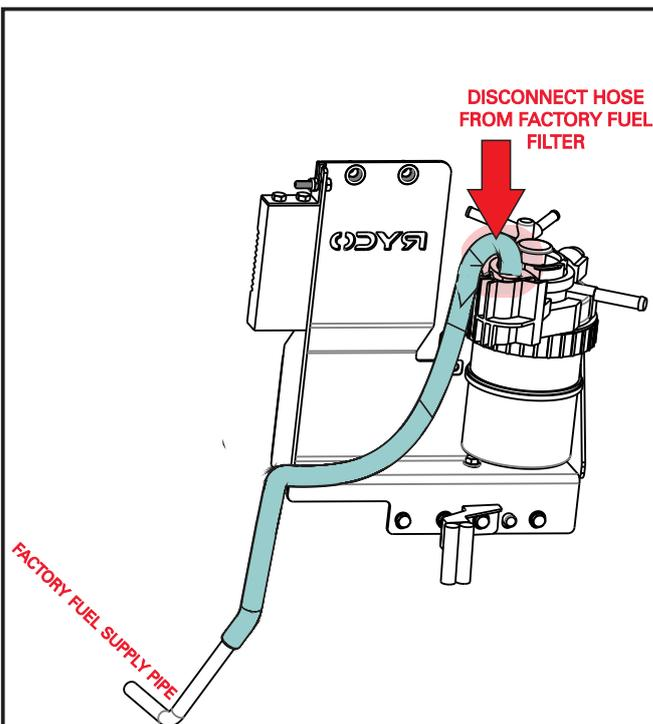

FIG. 5 FACTORY HOSE IDENTIFICATION
5. Locate the fuel inlet hose at the factory fuel filter. Loosen the factory fuel hose clamp and disconnect the fuel supply line coloured green in Fig. 5) from the factory filter. Have a rag ready to capture any diesel that may spill out of the fuel line and the fuel filter. Then install supplied fuel hose clamp and insert the supplied elbow connector (MS4081) onto the end of fuel supply line, do not tighten fuel hose clamps yet.
6. Mount the Z980K fuel filter assembly onto the fuel filter bracket facing to the engine using the two (2) black M10 bolts and washers supplied with the Z980K.
3. Connect the small end of Ryco PCV hose MH9808B (coloured green in Fig. 5) to the engine PCV valve outlet using the supplied hose clamp MS4092. Connect the larger diameter end to the lower port of the RCC351. Secure with the supplied hose clamp MS4091.
4. Connect a supplied straight hose joiner MS4100 to the small diameter end of the Ryco PCV hose MH9808B (coloured orange in Fig. 5) and secure with a supplied hose clamp MS4094.
5. Connect MH9808B to the factory PCV hose (coloured yellow in Fig. 5) via the hose joiner and secure with a supplied hose clamp, then connect the large diameter end to the upper part of the RCC351 and secure with a supplied hose clamp MS4091.